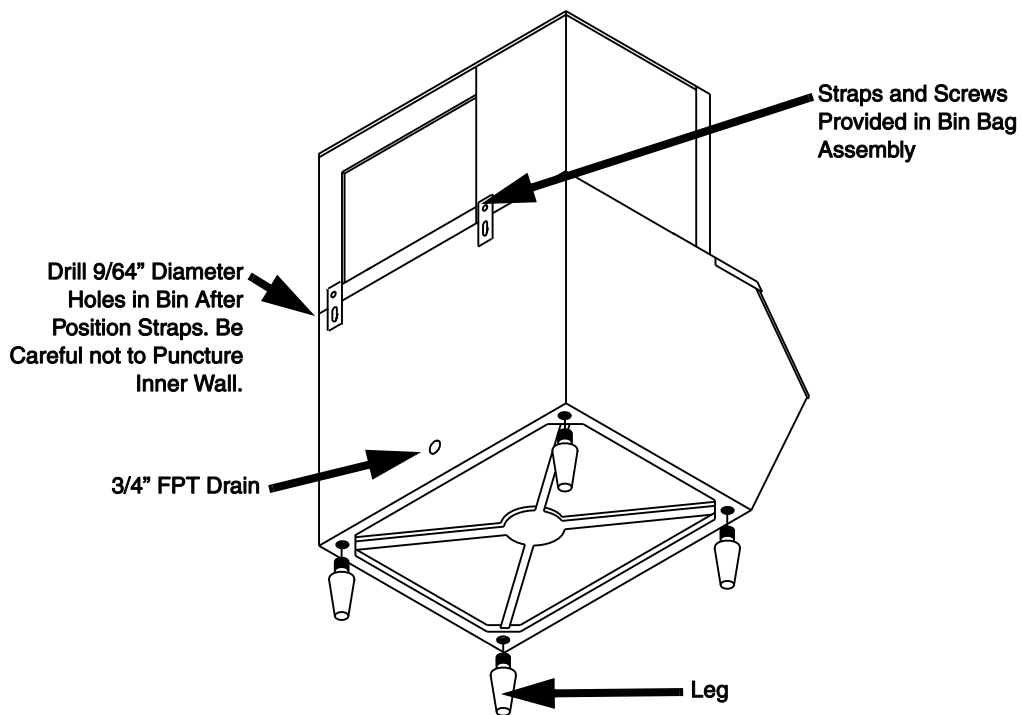

Figure 1
8. Once the pilot holes are drilled attach using the #14 screws. Carefully drive the screws into the bin. Do not strip the holes. This is a U.L. requirement and the responsibility of the installer (See Figure 1).